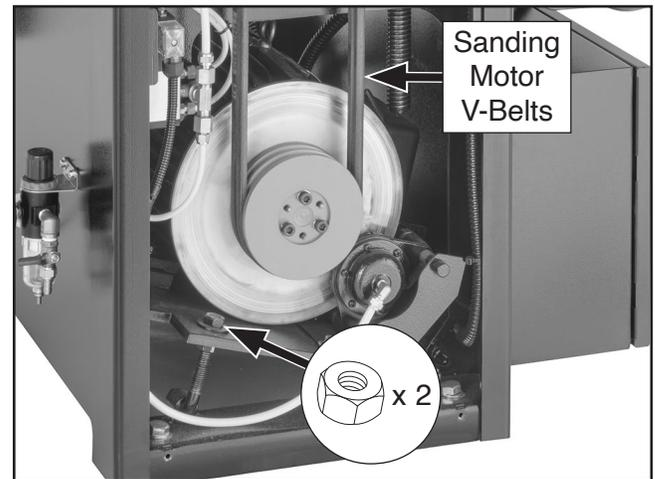
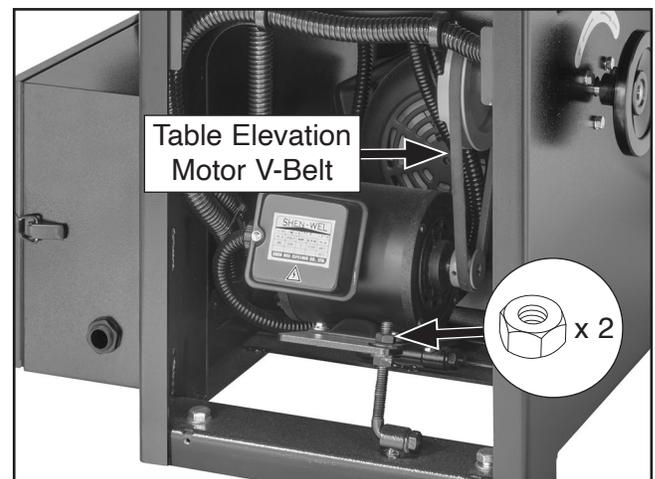

Figure 63. Sanding motor V-belt adjustment components.
Figure 64. Table elevation motor V-belt adjustment components.
4. On V-belt(s) that needs adjustment, rotate (2) V-belt tension nuts (see **Figure 63–Figure 64**) to raise or lower motor until there is approximately $\frac{1}{2}$ "– $\frac{3}{4}$ " deflection when V-belt(s) is pushed with moderate pressure.